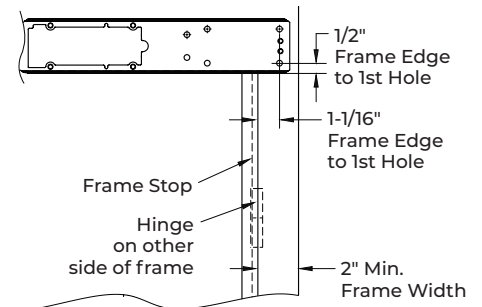

Fig. 2 Right Hand Shown
2. Measure, mark, and drill the first mounting hole according to the template (available for download from www.nortonrixson.com). (Fig. 2)